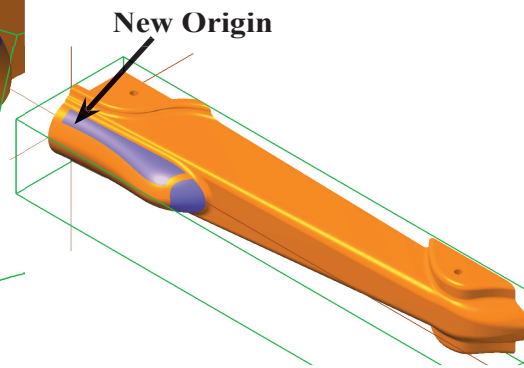

Fig. 33
Step 7. Note **center of cartridge hole** as new position of origin, **Fig. 33**.